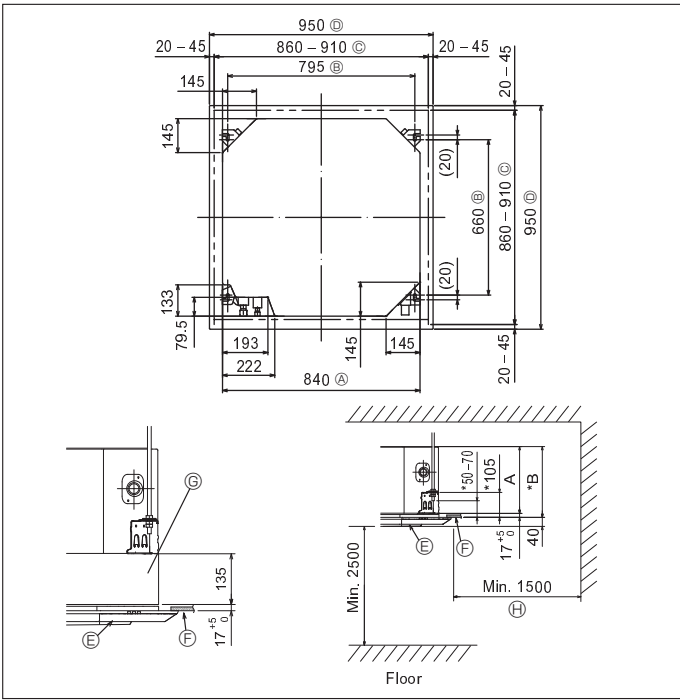

Fig. 2-2
2.2. Ceiling openings and suspension bolt installation locations (Fig. 2-2)
* The dimensions of ceiling opening can be regulated within the range shown in Fig. 2-2; so center the main unit against the opening of ceiling, ensuring that the respective opposite sides on all sides of the clearance between them becomes identical.